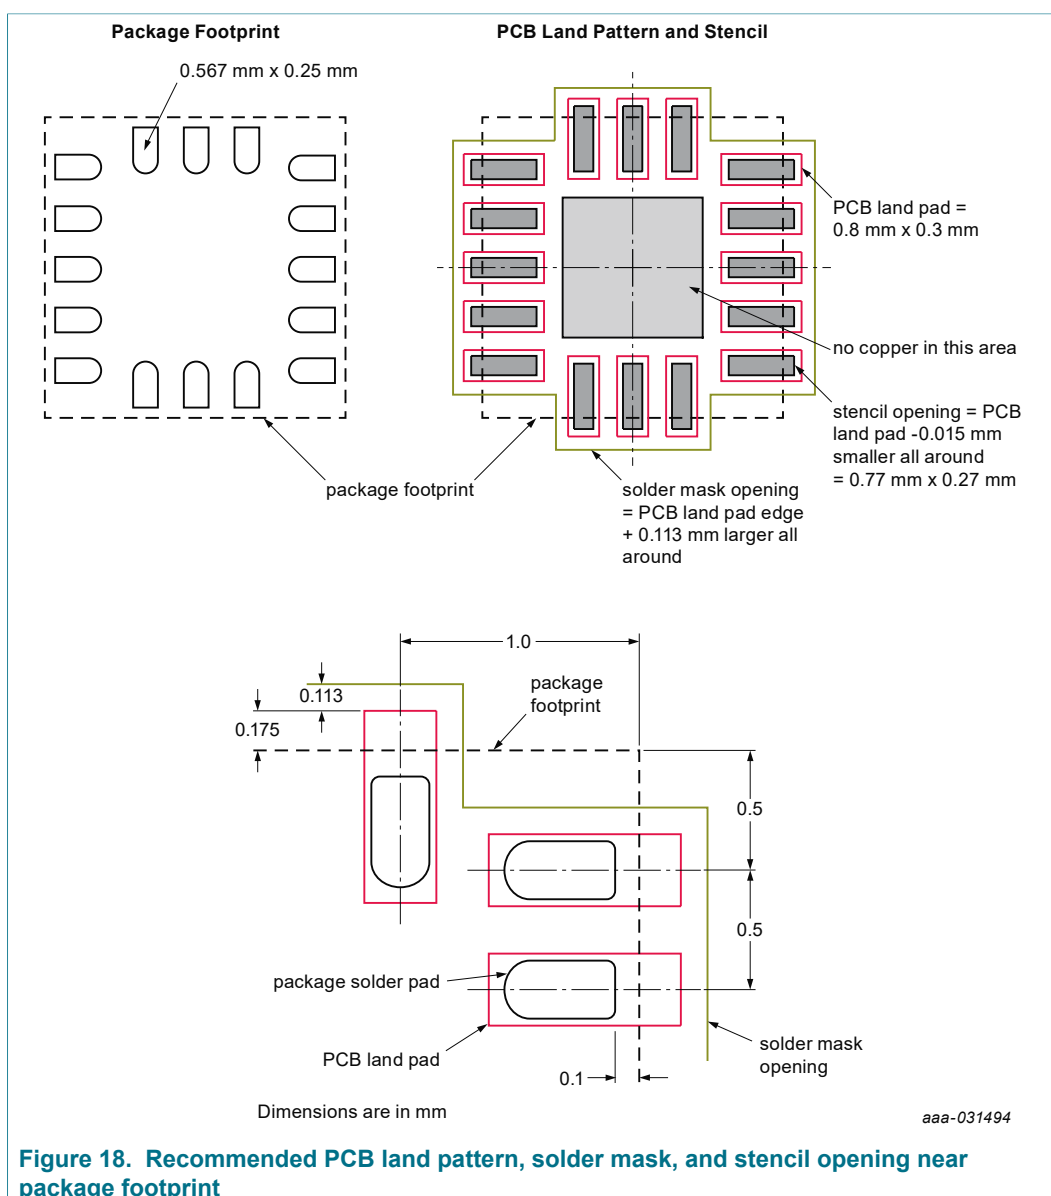

Figure 18. Recommended PCB land pattern, solder mask, and stencil opening near package footprint
- The PCB land should be designed with Non-Solder Mask Defined (NSMD) as shown in Figure 18.
- PCB land pad is 0.8 mm by 0.3 mm as shown in Figure 18.